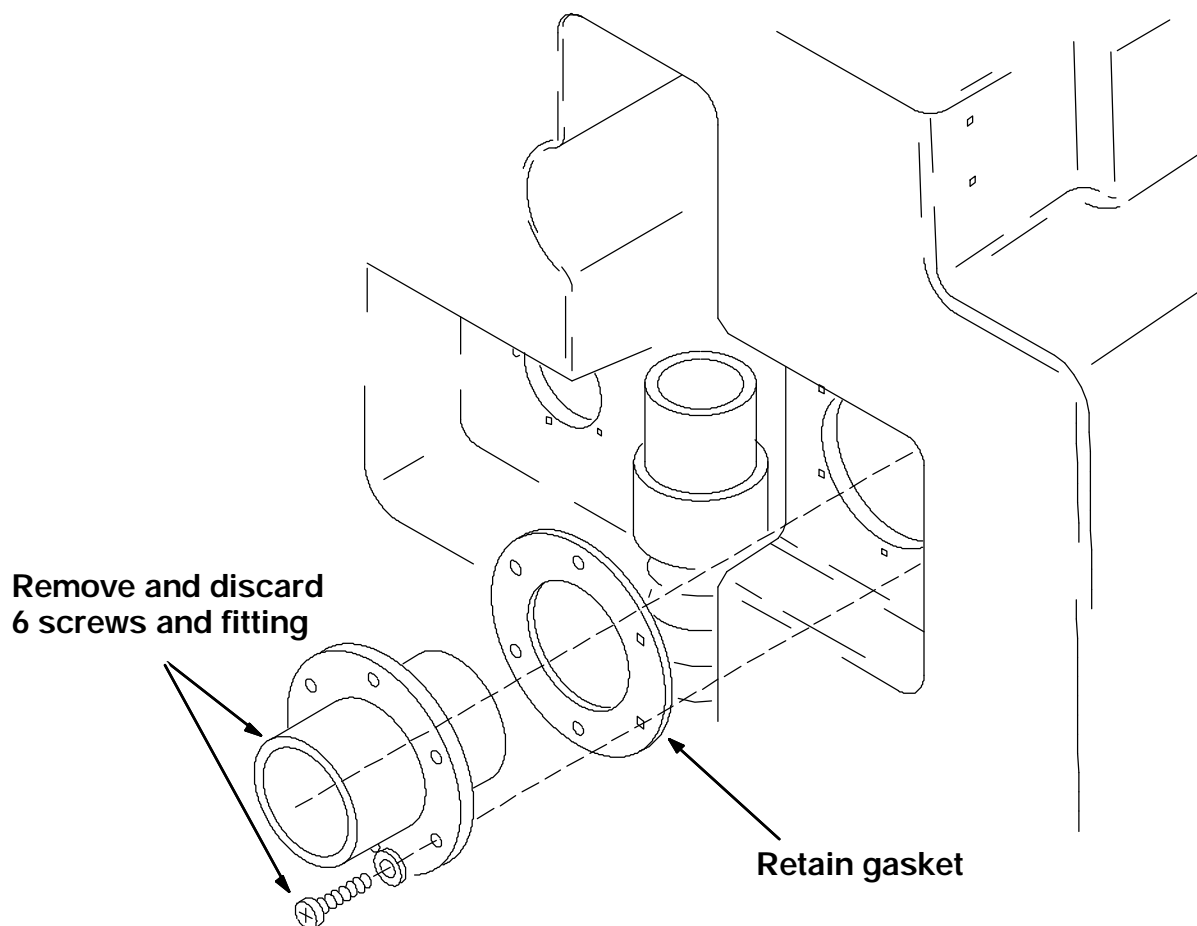

FIG. 3 - Remove Six Screws And Fitting From Tank -- Save Screws And Gasket
3. Remove and discard the six screws holding the plastic fitting to the tank. Pull the plastic fitting out of the tank. (Refer to FIG. 3)
5. Install the gasket removed in step 4 over the tube end on the bigger half of the filter box assembly (1). (Refer to FIG. 3 and 4)
6. Make sure the worm drive clamp is installed over the in-tank hose. (Refer to FIG. 3 and 4)
7. Position the bigger half of the filter box assembly (1) near the opening in the recovery tank. Slip the in-tank hose and clamp over the tube end of the filter box. (Refer to FIG. 3 and 4)
8. Make sure to position the filter box (1) properly against the tank. The filter box will only fit one way. Tighten the worm drive clamp. (Refer to FIG. 3 and 4)
9. Position the filter box (1) into the opening of the recovery tank. Align the rubber gasket and filter box with the mount holes in the recovery tank. (only 4 holes out of six are used) Install the four shorter hex screws (3) and star washers (4). Hand tighten tight.
(Refer to FIG. 3 and 4)